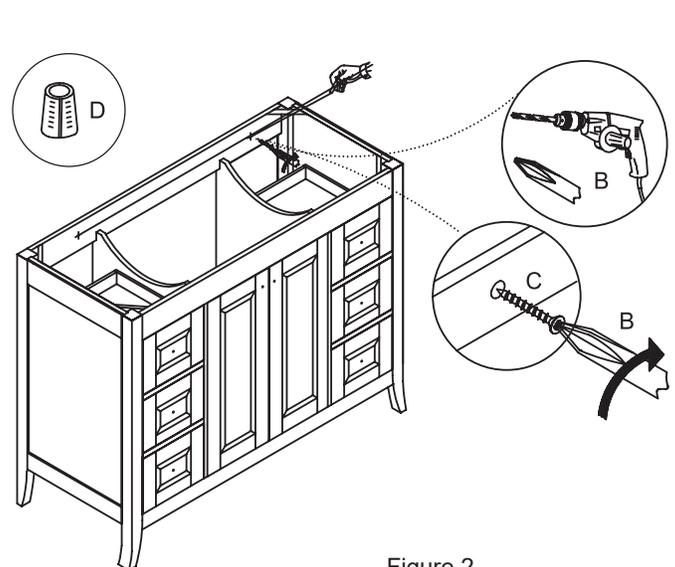

Figure 2
**5:** Secure the vanity to the wall by inserting (x 2) #8 x 3" screws (C - not included) through the back rail of the vanity. Figure 2. **NOTE:** It is recommended that the vanity be installed to at least one wall stud. In order to locate wall studs, you can use a stud finder or tap along the wall until you find a spot that sounds solid. If you are unable to locate wall studs, it is recommended that you use wall anchors (D - not included) to secure the vanity.